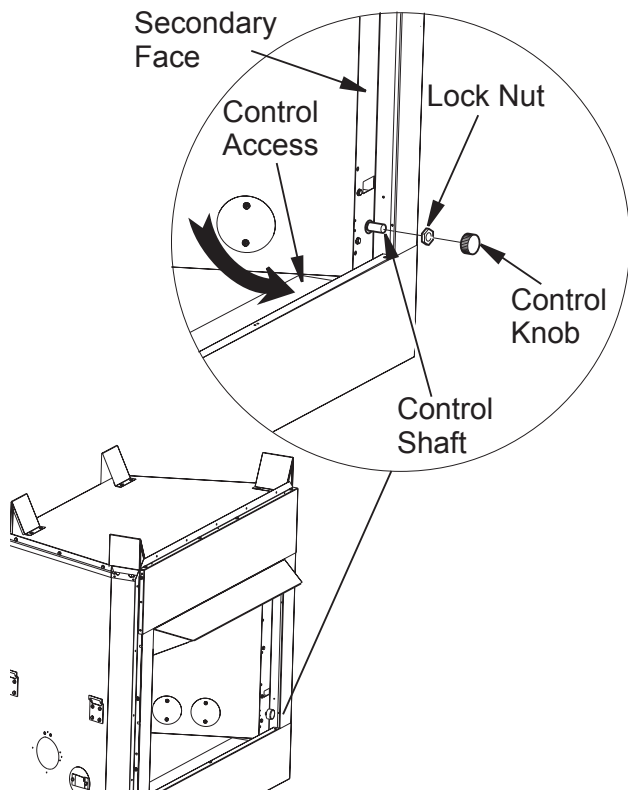

Figure 17 -Attaching Speed Control (Radiant Face Model Shown)
- Remove metal lock nut from plastic control shaft by turning lock nut with pliers counter clockwise. Mount speed control box by placing plastic control shaft through hole on lower portion of the left or right side of secondary face by sliding control box down through large hole in firebox bottom and up behind firebox side (see Figure 17, page 15). Secure speed control to side face with previously removed lock nut by pushing and turning lock nut clockwise with pliers until it is tight against side face of fireplace (see Figure 17, page 15).
- Place control knob, provided, onto control shaft (see Figure 17, page 15).